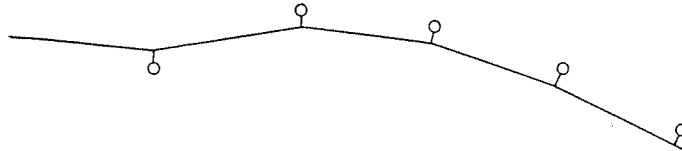

Fig. 3a.
28. Angles in the line can usually be negotiated by taking the stagger on the same side of successive trees without exceeding the figure of 15 feet or 18 feet given in the preceding paragraph. (See Fig. 3a.)